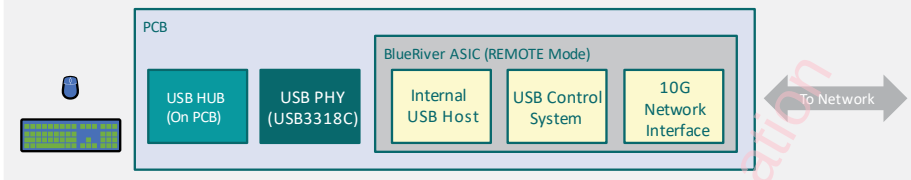

Figure 3-12: REMOTE USB HUB Port Connected on Product PCB
2. Implemented as an USB ULPI PHY on the BlueRiver chipset PCB, refer to Figure 3-12: REMOTE USB HUB Port Connected on Product PCB.